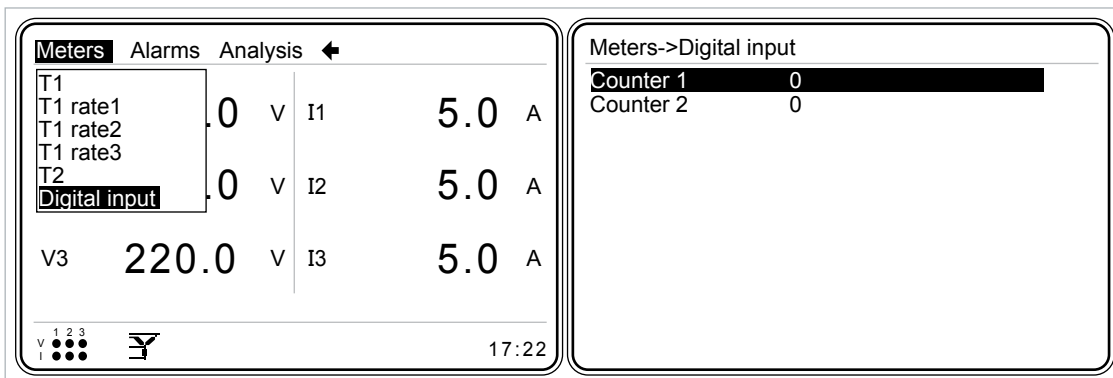

Figure 3-31 Digital Input1 Counter
- Assume that for digital input 1, 'Counter' is selected as the mode setting. Under this condition, each time DI1 and GND pins are short-circuited, "Meters->Digital input-> Digital input1 counter" counts (Figure 3-31).